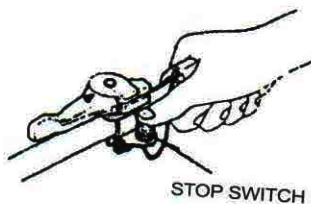

Fig .16
1) Decrease the engine speed, and depress the stop button until engine has stopped. (Fig. 16)